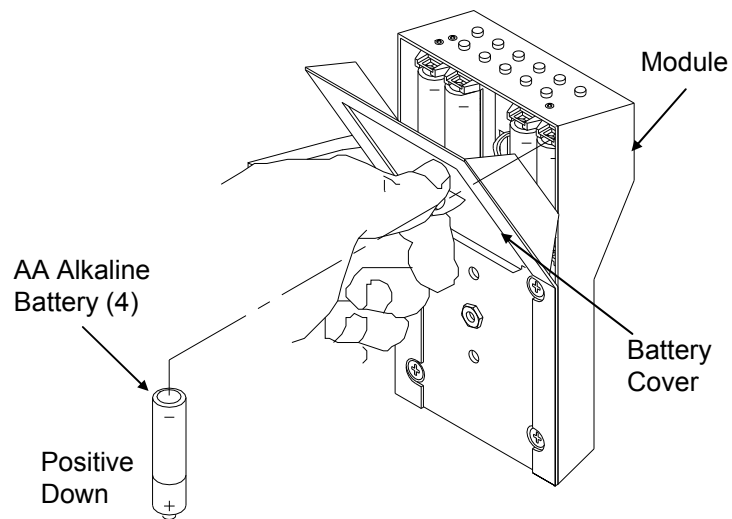

Figure 7 Battery Replacement
- Step 4 Using the tab on the Battery Cover, carefully pull the Battery Cover away from the Housing to expose the Batteries (Figure 7)